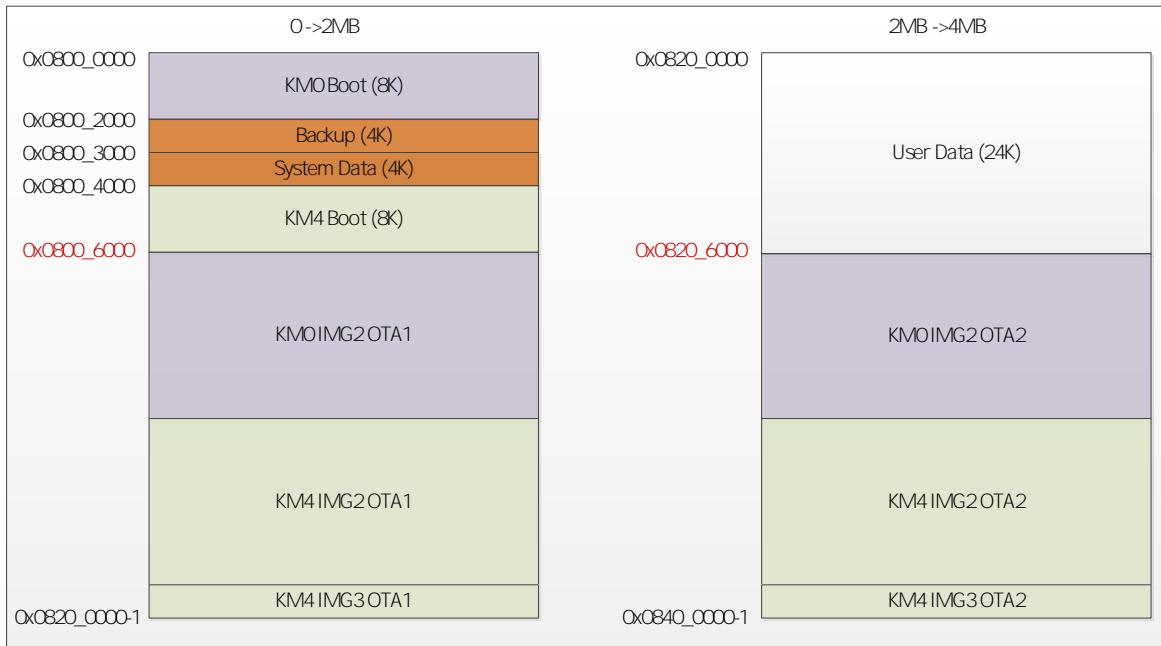

Fig9-4 4MFlash program layout example
For 4M Flash, an example of Flash layout is illustrated in Fig9-4. In this example, 2048bytes size can be used for KM0M2 image and you can modify the layout according to your actual condition. Because bootloader will be called by ROM code, the address of bootloader cannot be changed. Other addresses except bootloader can all be changed by user, but before you change these addresses, make sure that you are familiar with AmebaD system and SDK.
- Modify OTA_Region in rtl8721d_bootcfg.h, change OTA2 region start address according to your layout when using 4M Flash program layout example as shown Fig9-4, OTA region should be modified as below:
- Modify OTA address definition in rtl8721d_redefineLS_IMG2_OTA2_ADDR macro according to your actual Flash layout using 4M Flash program layout example as shown Fig9-4, OTA address should be modified as below:
- For BT FTL start address, define ftl_phy_page_start_addr variable in rtl8721dhp_intfcfg.h Note that SPI FLASH address base 0x0800_0000 is subtracted when calculating ftl_phy_page_start_addr variable and ftl_phy_page will consume 3*4=12KB Flash start from ftl_phy_page_start_addr when using 4M Flash program layout example as shown Fig9-4, BT FTL start address should be modified as below:
- For WiFi fast connect profile address, redefine FAST_RECONNECT_DATA macro in platform_opts.h and SPI FLASH address base 0x0800_0000 is subtracted when calculating FAST_RECONNECT_DATA macro Note that WiFi fast connect profile address should not recover the 12KB Flash start from ftl_phy_page_start_addr this region is reserved for BT When using 4M Flash program layout example as shown Fig9-4, WiFi fast connect profile address should be set to 0x202000+0x3000=0x205000